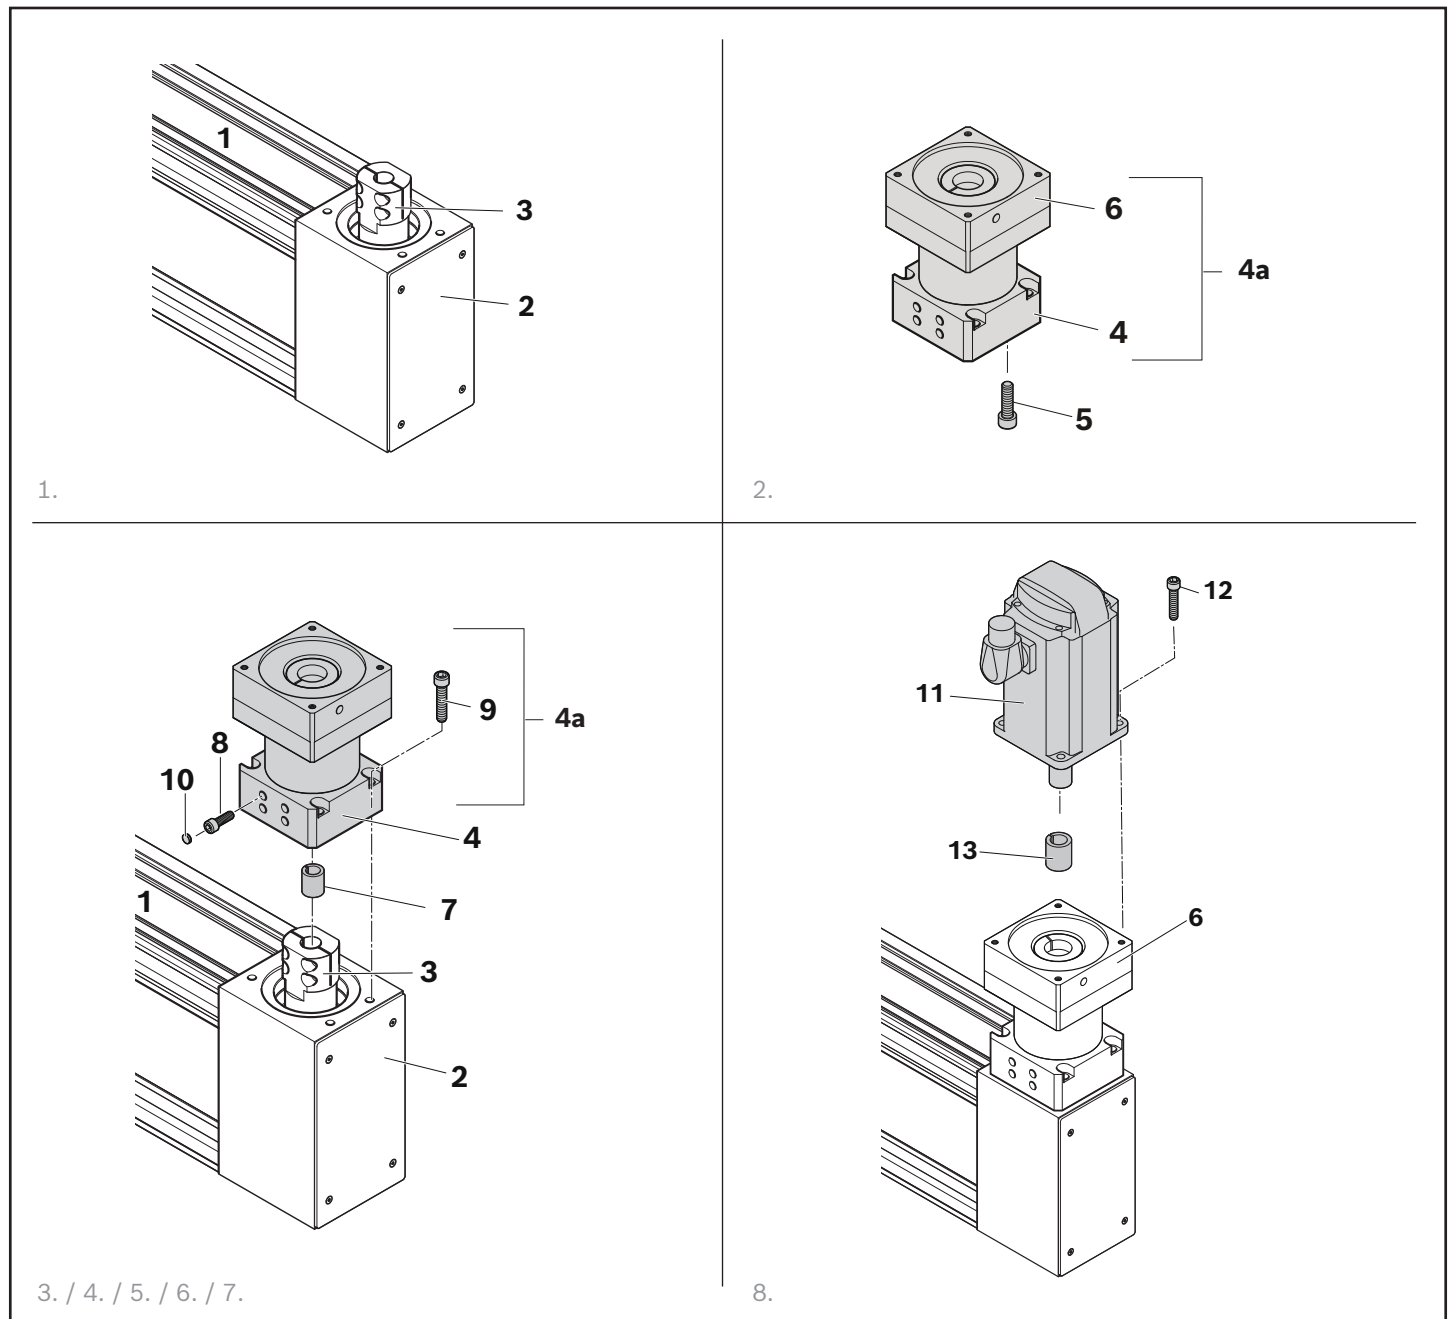

Fig. 28: Gear attachment CKR-280
1. Rotate the linear system accordingly (support frame ➡ Fig. 28), so that the clamping hub (3) points upwards.